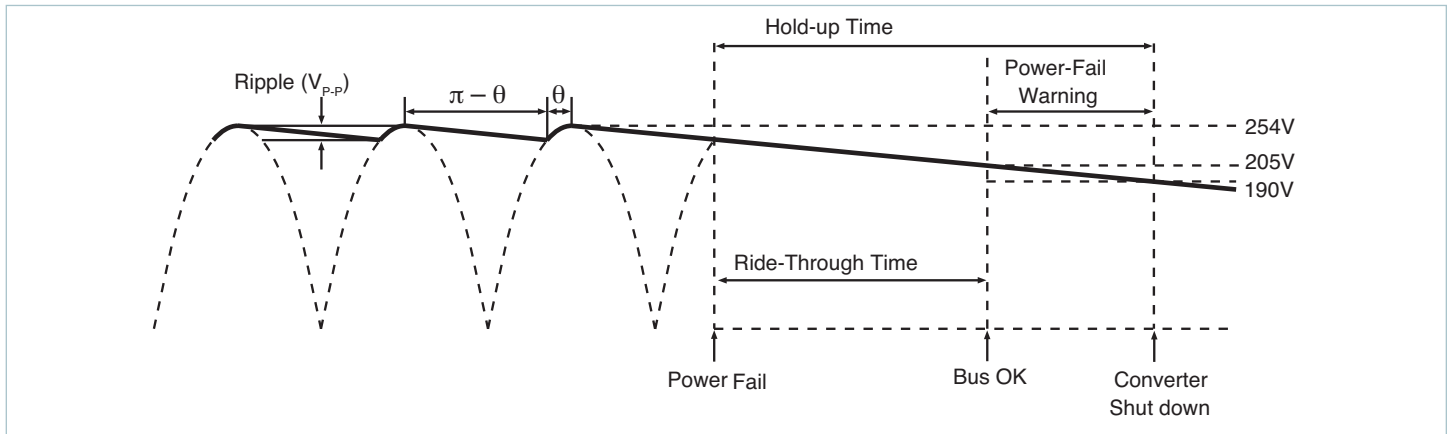
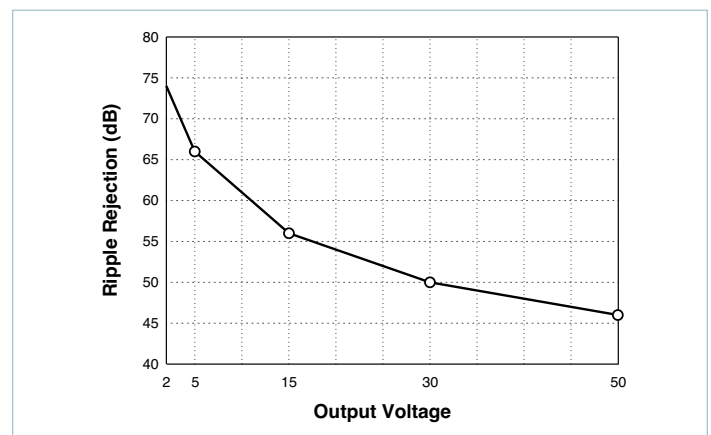

Figure 8.7 — General timing diagram of bus voltage following interruption of the AC mains
Figure 8.11 — Converter ripple rejection vs. output voltage (typical)
Hold-up Capacitors: Hold-up capacitor values should be determined according to output bus voltage ripple, power fail hold-up time, and ride-through time. (Figure 8.7)
The power-fail warning time (Δt) is defined as the interval between Bus OK and converter shut down (EN) as illustrated in Figure 8.7. The Bus OK and Enable thresholds are 205 and 190V, respectively. A simplified relationship between power-fail warning time, operating power, and bus capacitance is obtained by inserting these constants:
For example, a converter whose output is 15V and nominal input is 300V will provide 56dB ripple rejection, i.e., 10V_{p,p} of input ripple will produce 15mV_{p,p} of output ripple. (Figure 8.11) Equation 3 is again used to determine the required capacitance. In this case, V_1 and V_2 are the instantaneous values of bus voltage at the peaks and valleys (Figure 8.7) of the ripple, respectively. The capacitors must hold up the bus voltage for the time interval (Δt) between peaks of the rectified line as given by:
(Figure 8.7)
Determining the Ripple on the Output of the DC-DC Converter: Figure 8.11 is used to determine the ripple rejection of the DC-DC converter and indicates a ripple rejection of approximately 60dB for a 12V output. Since the ripple on the bus voltage is 12V_{AC} and the ripple rejection of the converter is 60dB, the output ripple of the converter due to ripple on its input (primarily 120Hz) will be 12mV_{p-p}.